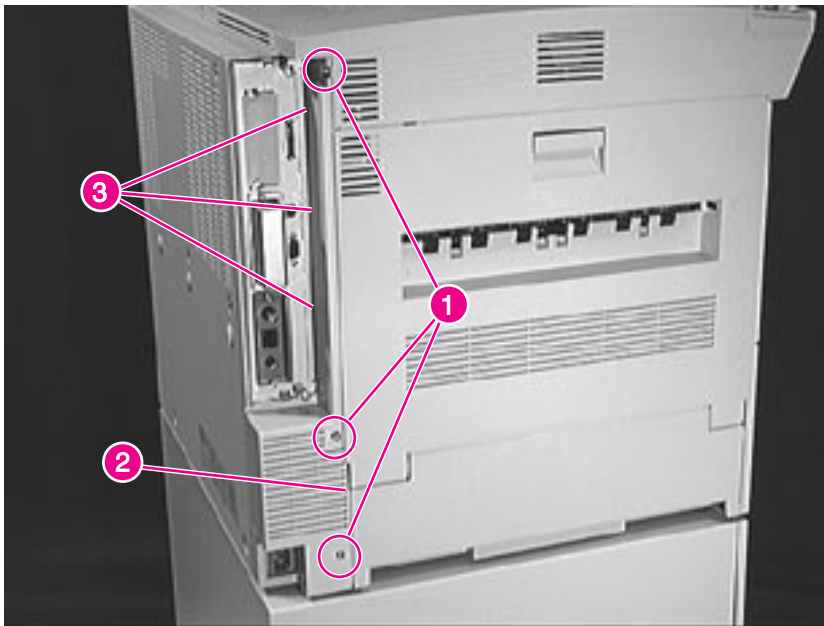

Figure 6-4 AC Access Cover
- 2 Remove 3 screws (figure 6-4, callout 1).
- 1** Insert the panel edge (figure 6-4, callout 2) inside the back cover (if installed).
- 2** Be sure to insert the three alignment tabs (figure 6-4, callout 3) into their slots before replacing the screws.
- AC Access Cover (see figure 6-4 on page 160)